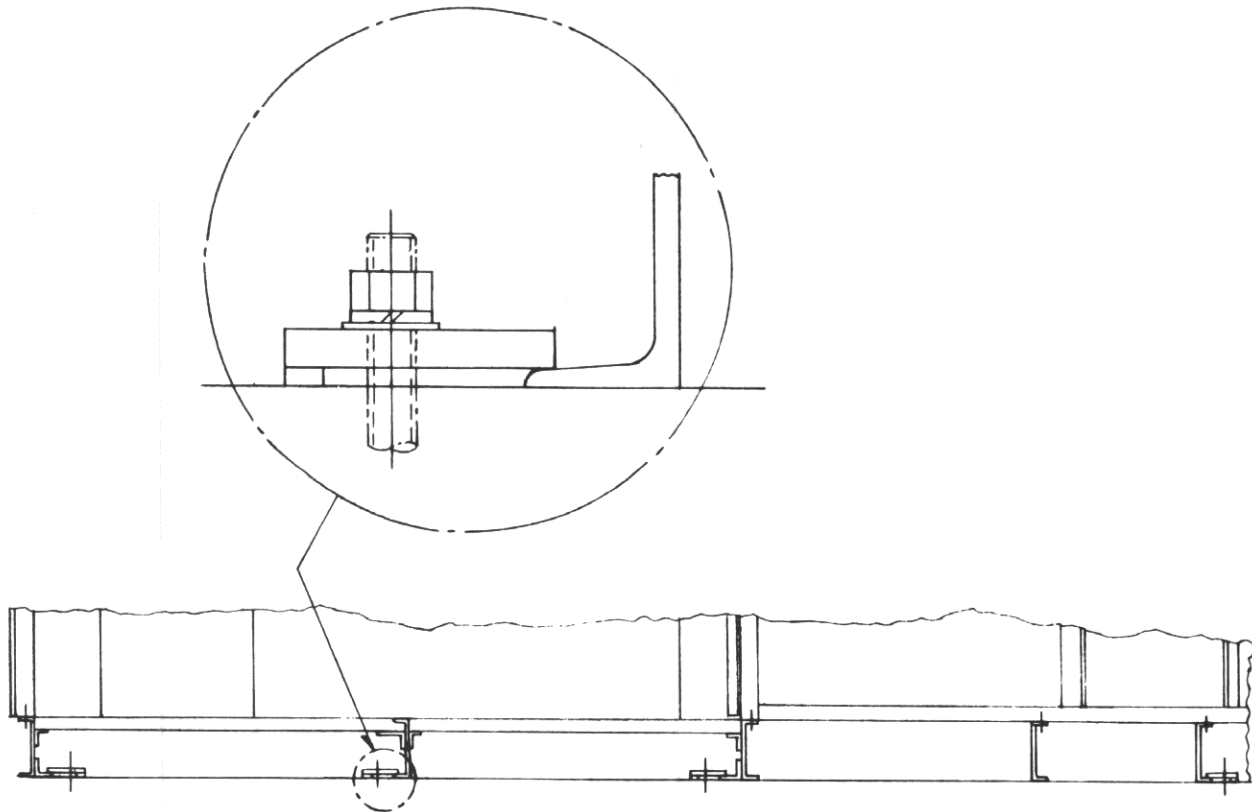

Fig. 6. Channel Hold Down Lug
8. The hold down lugs, Style No. 1584102 are placed over the anchor bolts as detailed in the enlarged view of Fig. 6. These are located along the channel at the front of the units directly below the hinged instrument panels, along the channel at the